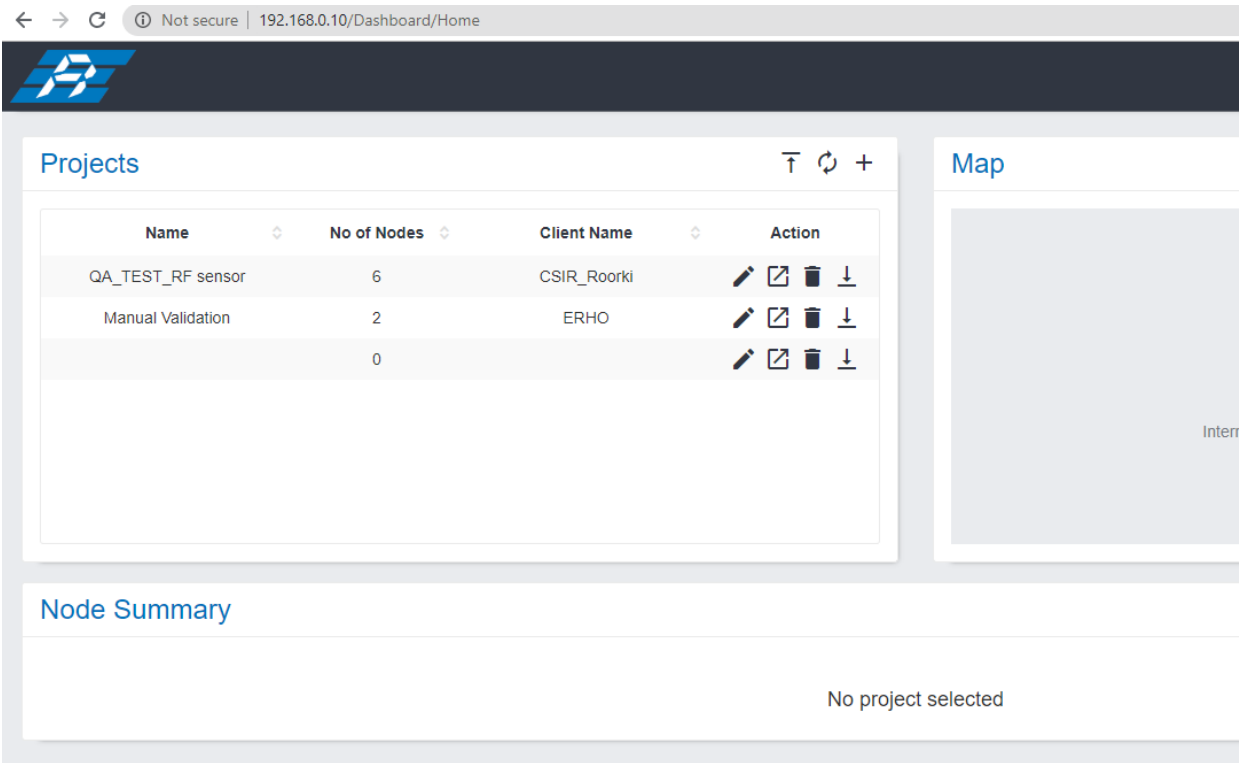

Figure 3-22
- 8. After pressing 'Setup' button, the software will take back to the Dashboard with the project details list as shown in figure 3-22.